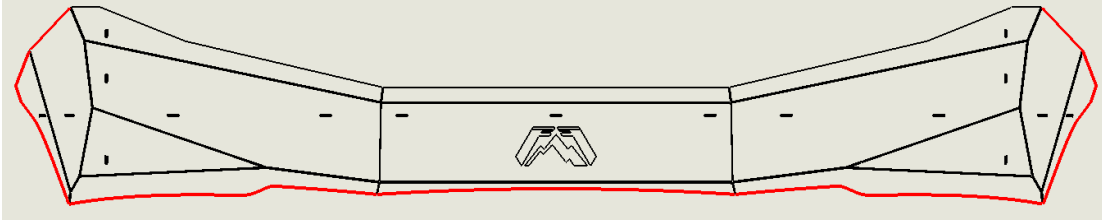

Fig 13
- f. Install the edge seal with adhesive onto the leading edge of the cowl as shown in **Fig 13** by the highlighted red line.